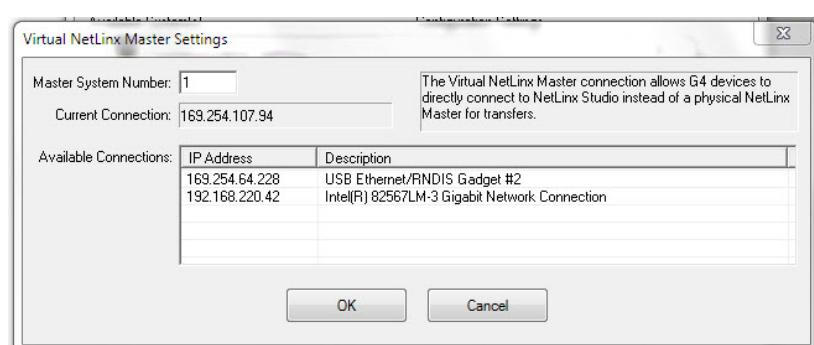

FIG. 73 Virtual NetLinx Master Settings
- Click the **Edit Settings** button on the *Communications Settings* dialog to open the *Virtual NetLinx Master Settings* dialog (FIG. 73).